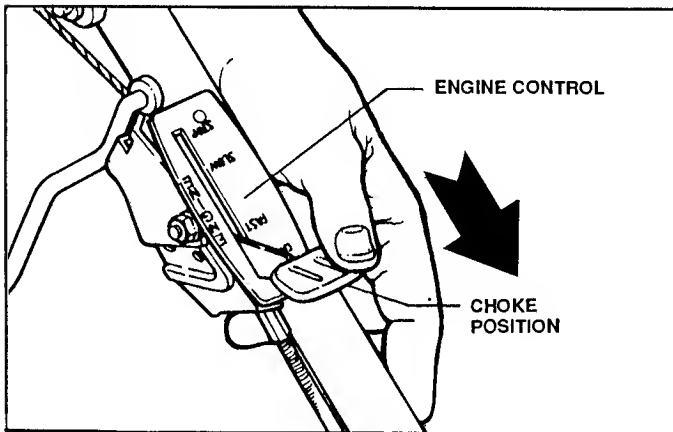

FIGURE 6
3. **CHOKE ENGINE** for cold starting by moving **ENGINE CONTROL** to **CHOKE** position. See Figure 6.